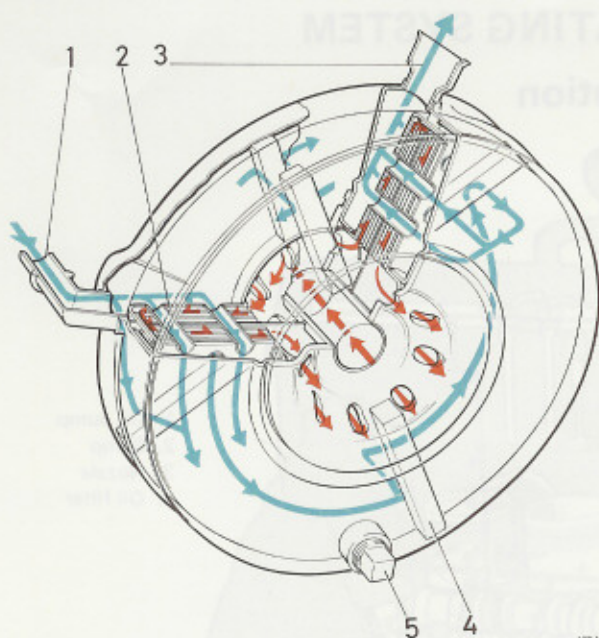

Fig. 22-3. Oil cooler
The oil cooler (Fig. 22-3) is fixed between the oil filter and the cylinder block and consists of an inner part for the oil, which is surrounded by a cooling jacket. Engine coolant is conducted through the cooling jacket. Since the oil on its way to the filter passes the oil cooler some of the heat from the oil is cooled by means of the coolant. The coolant cannot go the shortest route from the inlet (1) to the outlet (3) but is forced to take a zig-zag path and round the radiator as shown by the blue arrows (Fig. 22-3). A number of rubber seals (4) force the fluid to take this definite route.